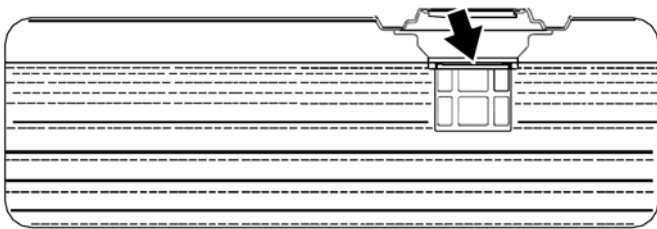

Figure 7 - Maximum Gasoline Fill Level
6. Slowly add gasoline into the fuel tank. Be very careful not to overfill the tank. The gasoline level should NOT be higher than the filler neck (see Figure 7).